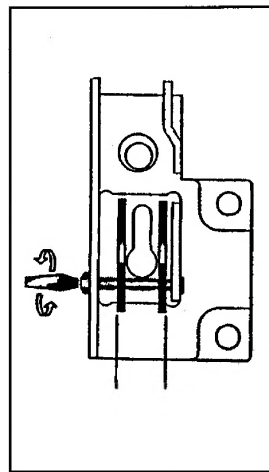

Fig. 3
4. With a screwdriver screw the adjuster screw down until the adjuster reaches the bottom (see Fig. 3).